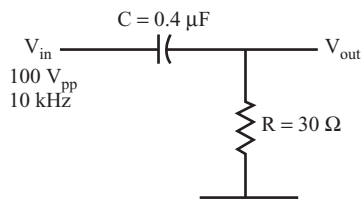

FIGURE 6.54
2. Use the circuit shown in Figure 6.54.